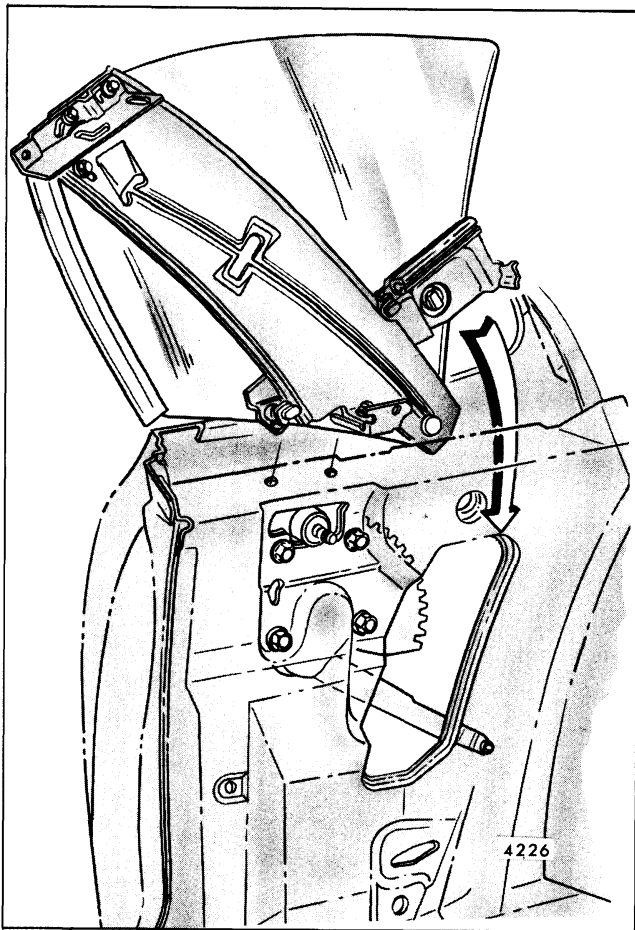

Fig. 6-35-Quarter Glass and Guide Assembly
8. Disengage regulator lift arm from sash channel cam and remove glass and guide as an assembly (Fig. 6-35).